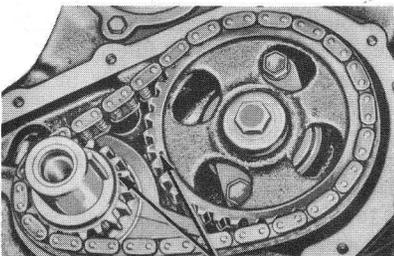
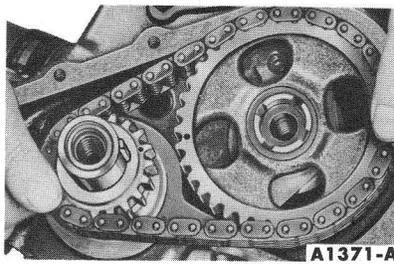

FIG. 51—Aligning Timing Marks
FIG. 52—Timing Chain and Sprockets Removal
5. Crank the engine until the timing marks are aligned as shown in Fig. 51. Remove the camshaft sprocket retaining bolt and washer. Slide both sprockets and timing chain forward and remove them as an assembly (Fig. 52).
1. Position the sprockets and timing chain on the camshaft and crankshaft. Be sure the timing marks on the sprockets and chain are positioned as shown in Fig. 51. Install the camshaft sprocket cap screw and washer. Install the oil slinger so that the timing pointer on the slinger is aligned with the camshaft timing mark.